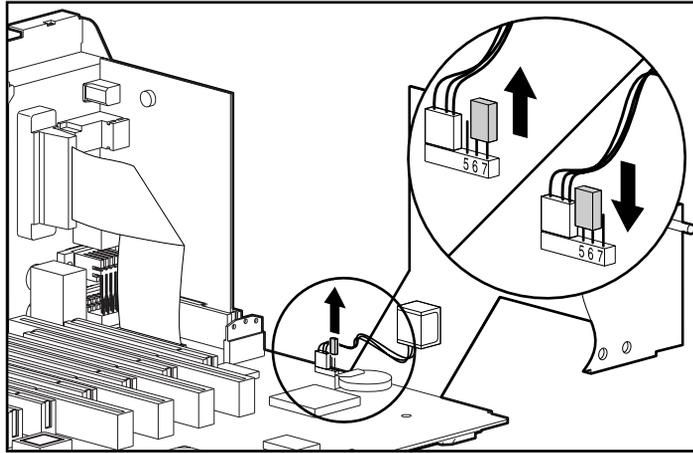

Figure D-2. Changing the jumper from pins 6-7 to pins 5-6
3. Plug the battery connector onto pins 1-4 on the expansion cage system board, as shown in Figure D-2.